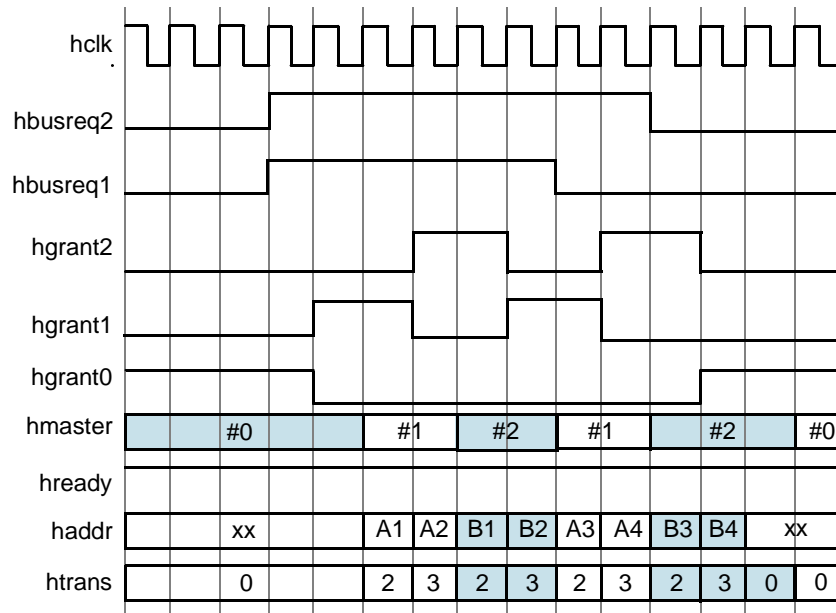

Figure 5: Bursts with Unspecified Length and Equal Priority Level
Figure 5 on page 30 shows the timing that occurs when masters with undefined length bursts and the same priority level are early terminated by masters of equal or higher priority.
In Figure 5 on page 30, there are two masters requesting ownership of the bus with the same priority. When a master is granted access to the bus, it is for a minimum of two clock cycles. The arbiter then selects one of the masters, and bus ownership can change. Burst transfers that are of an unspecified length may be early burst terminated by grants to requests from masters of equal priority or greater priority. For bursts of this type, changing grants is calculated at every cycle.
- Bursts with unspecified length and equal priority levels (Figure 5 on page 30)